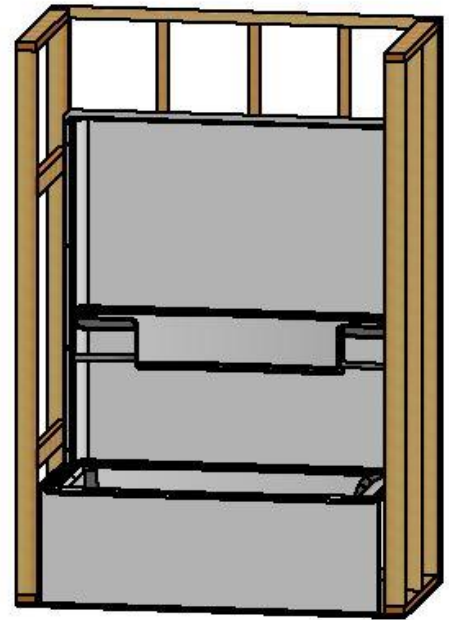
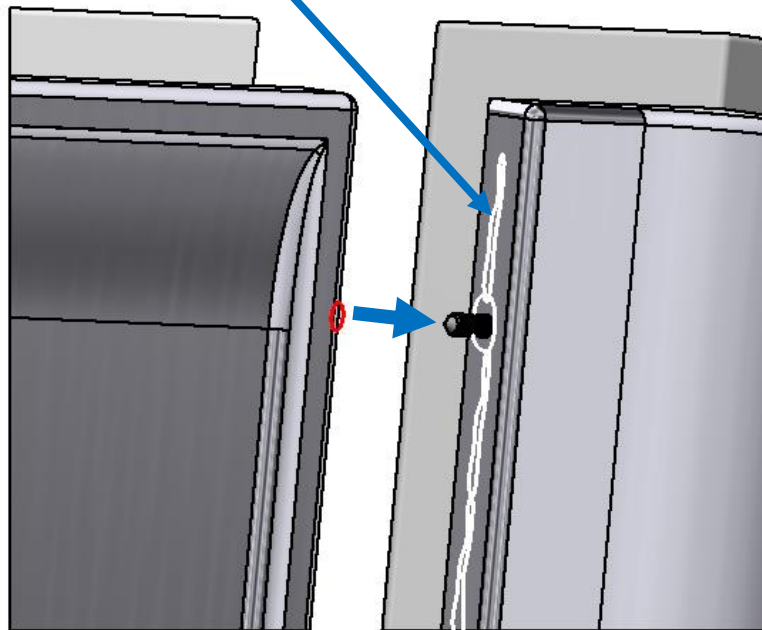

Fig 2
Fig 3
5. Install the back wall (Fig. 2) and apply a 1/4" bead of Silicon caulking on the back wall flanges. (Fig. 3)
6. Align the holes in the side wall flanges with the four Christmas Tree clips on the back wall flanges. Push the side walls onto the Christmas Tree clips. Some force may be required. (Fig. 3)